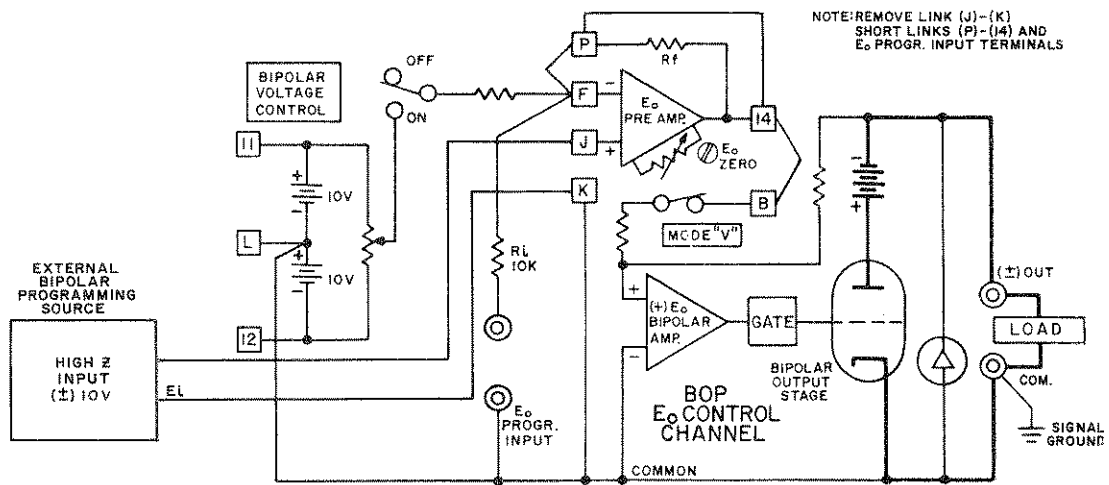

FIG. 3-11 PROGRAMMING CIRCUIT FOR DRIVING THE BOP OUTPUT VOLTAGE WITH A HIGH-IMPEDANCE SOURCE, USING THE NON-INVERTING INPUT OF THE PRE-AMPLIFIER
- 3-27 The non-inverting input of the E_o PRE-AMP is used for applications where the external programming source has a high impedance and/or cannot supply the necessary 0.1 mA drive current, or where a negative going output swing is desired for a positive going input signal. The necessary connections are illustrated in FIG. 3-11 for a E_o PRE-AMP GAIN of unity (with the built-in value for R_i retained and a short across R_f), although other gain configurations can be chosen, according to the output equation for the non-inverting configuration: